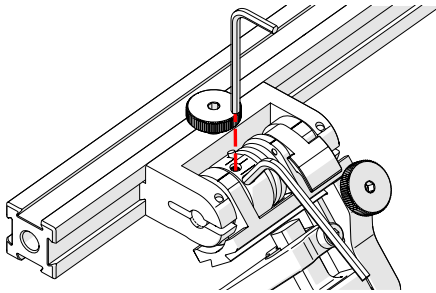

Fig. 180 - Insert hex tools
4. Place the 2 mm hex wrench into the force adjustment screw (Fig. 180).